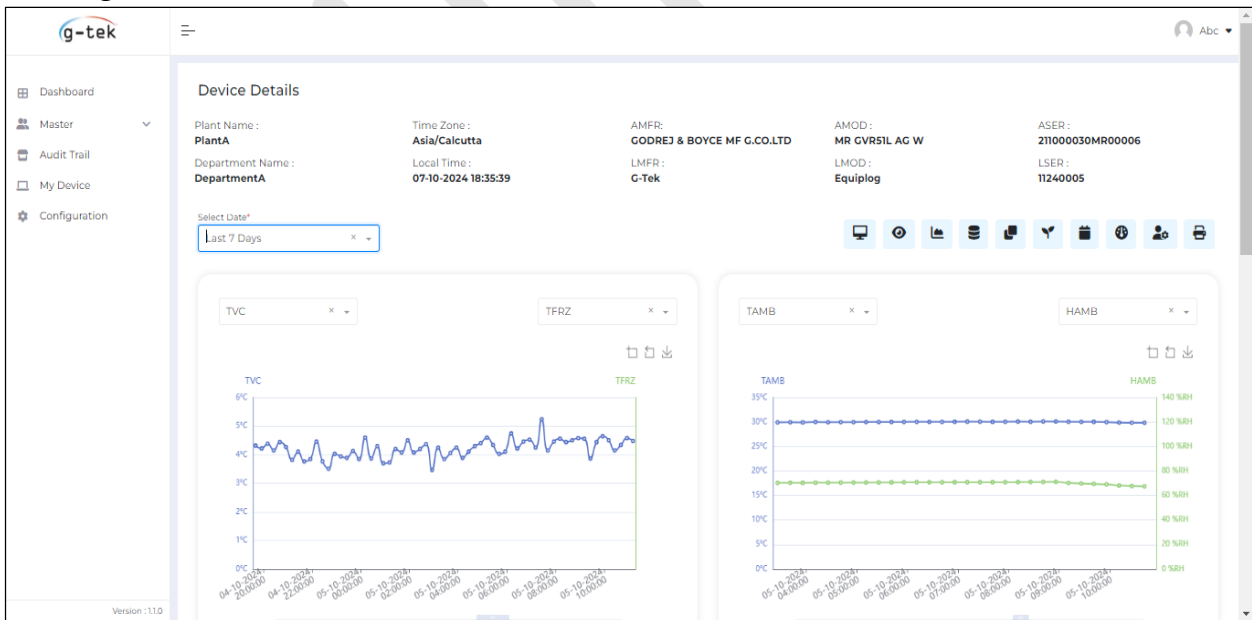

Figure 48 Gtek Cloud Graph view Dashboard for selected data logger
- Once the data is downloaded, data can be viewed on the application dashboard as shown in figure 48.